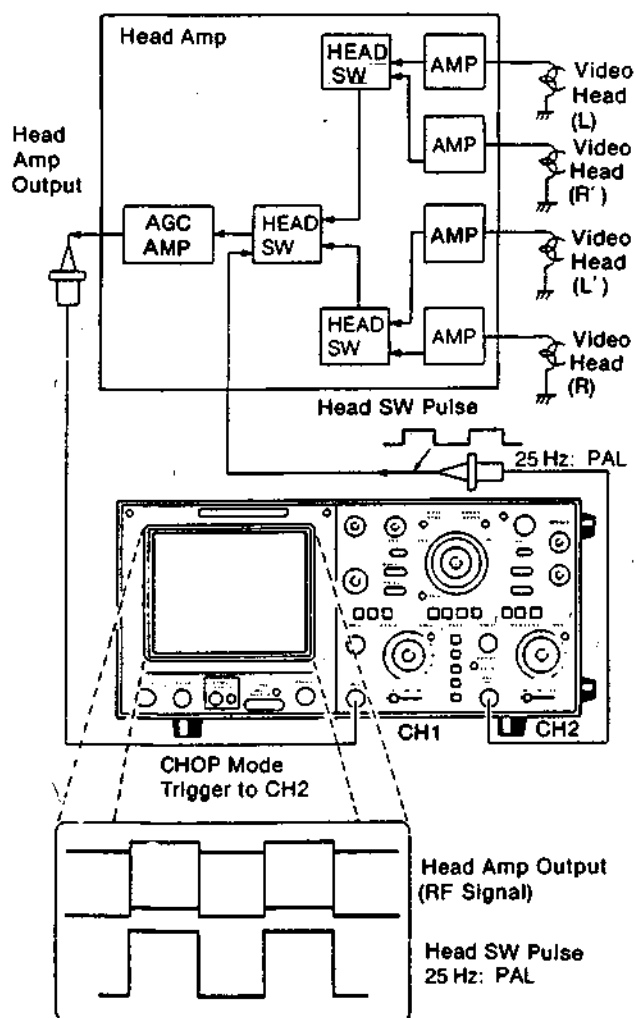

Fig. 2-18
- Connect the oscilloscope to the output of the head amp as shown in Fig. 2-18.
To get a stable waveform of the head amp output on the oscilloscope, use the head switching pulse as a triggering signal as shown in fig. 2-18.
- Connect the oscilloscope to the output of the head amp as shown in Fig. 2-18. For the connecting points make reference to the relevant service Manual.
- Connect the oscilloscope to the output of the head amplifier as shown in Fig. 2-18.